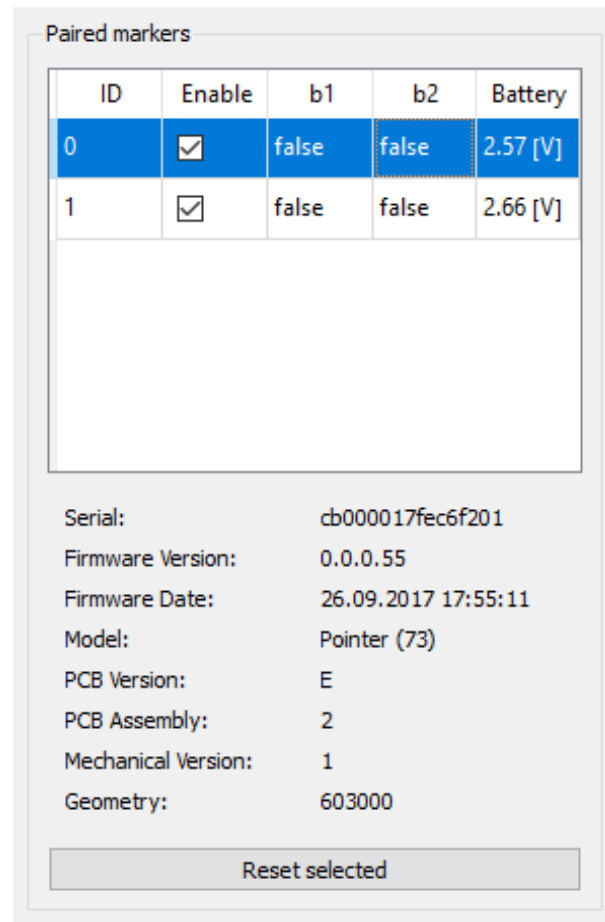

Figure 8.2: The Paired markers widget lists all the paired wireless markers and display their statuses.
- **Paired markers** contains a table (See Figure 8.2) where paired *markers* are listed. The statuses of the buttons of the paired *markers* as well as the battery state are displayed. When a field is in RED, it means that the value has not been updated recently (2 second for the battery, 50ms for the buttons). The cause is most probably the *marker* being out of reach of the infrared transmitter and receptor of the fusionTrack. Letting the mouse cursor on one of the battery field in the table will display a tooltip indicating the maximum and minimum voltages for the battery. The table also contains a column called "Enable" with checkboxes. When checked, the fusionTrack will activate the LEDs of a given marker at each cycle. This allows the tracking of the marker. When unchecked, the marker LEDs will never be lighted on. The tracking is therefore impossible. By default, the tracking is enabled after a pairing.